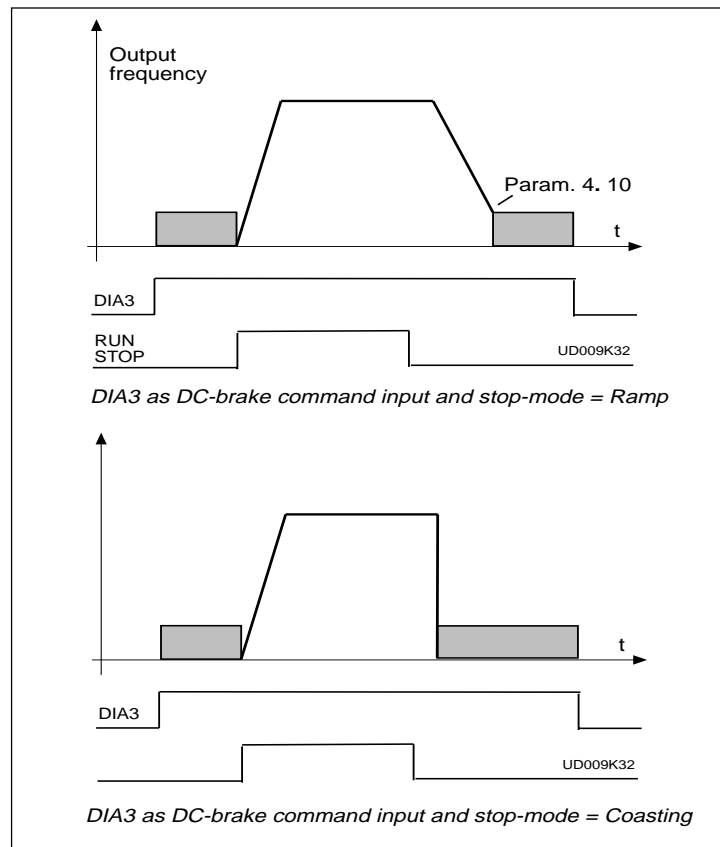

Figure 6.5-1 DIA3 as DC-brake command input:
- 9: DC-braking command contact closed = In the stop mode, the DC-braking operates until the contact is opened, see figure 6.5-1. Dc-brake current is set with parameter 4. 8.
- 9: DC-braking command contact closed = In the stop mode, the DC-braking operates until the contact is opened, see figure 6.5-1. DC-brake current is set with parameter 4. 8.